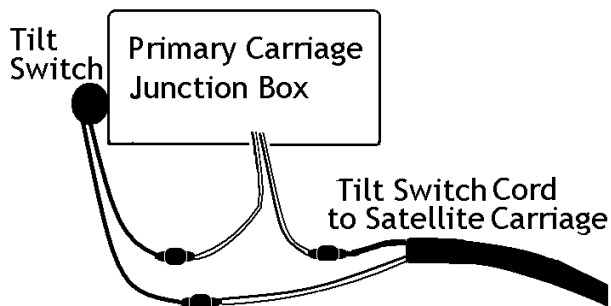

Fig. 30 – Primary carriage junction box & tilt switch wiring
- 76 Connect black wire with male spade from black tilt-switch cord to one white wire with female spade from primary carriage junction box. See Fig. 30.
- 77 Connect white wire with female spade from same end of black tilt-switch cord to one black wire with male spade from primary carriage tilt switch. See Fig. 30.
- 78 Connect female spade on remaining white wire from primary carriage junction box to remaining black wire with male spade from primary carriage tilt switch. See Fig. 30.